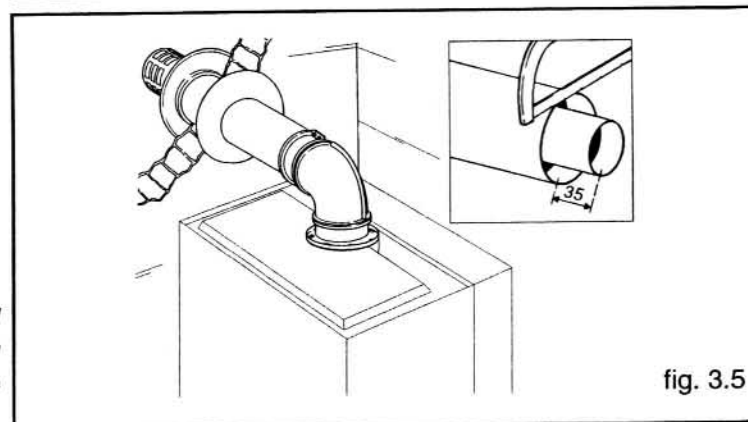

fig. 3.5
N.B.: When shortening the flue pipe, cut the external 100 diam. pipe and the internal 60 diam. pipe, keeping the original difference in length between the two (35 mm). (see fig. 3.5).